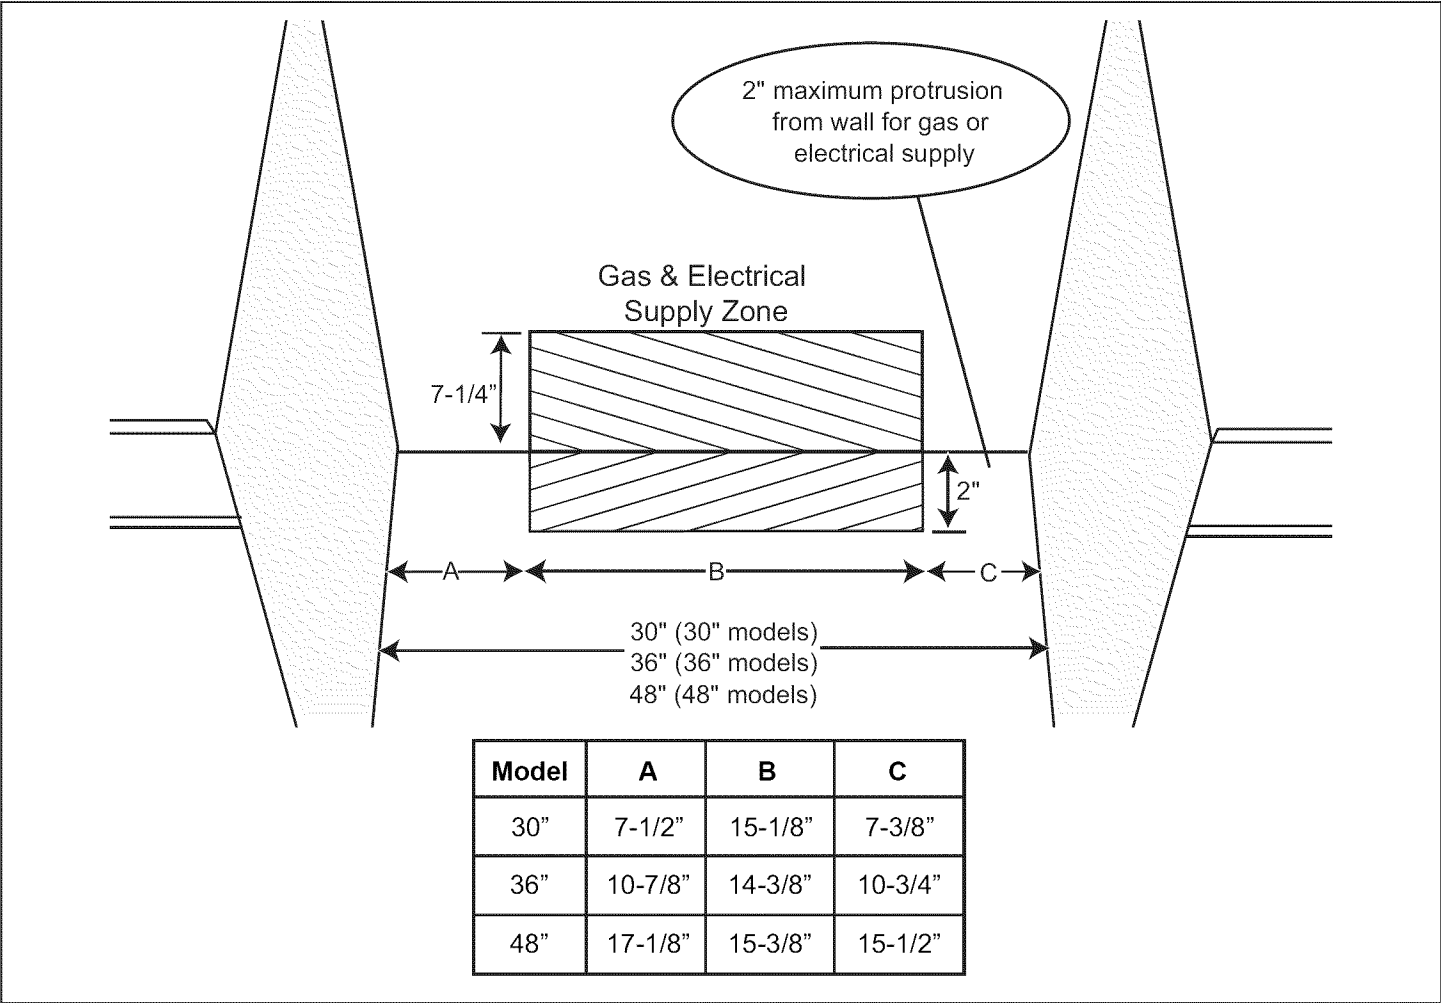

Figure 3a: Gas & Electrical Supply Locations for Dual Fuel Ranges
3. The gas and electrical supply should be within the zone shown in Figure 3a.